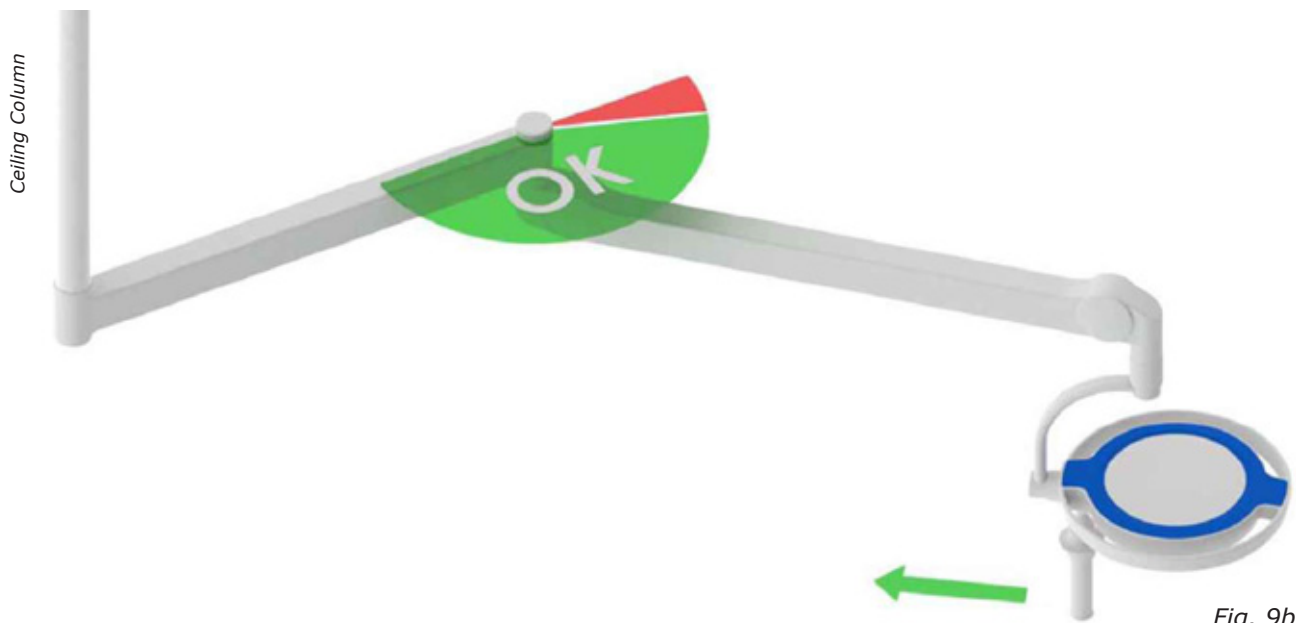

Fig. 9b
- 4.0.2 To move the attachment in the direction of the axis of suspension, the angle between the extension and spring arms must be less than 180° (Fig. 9b).